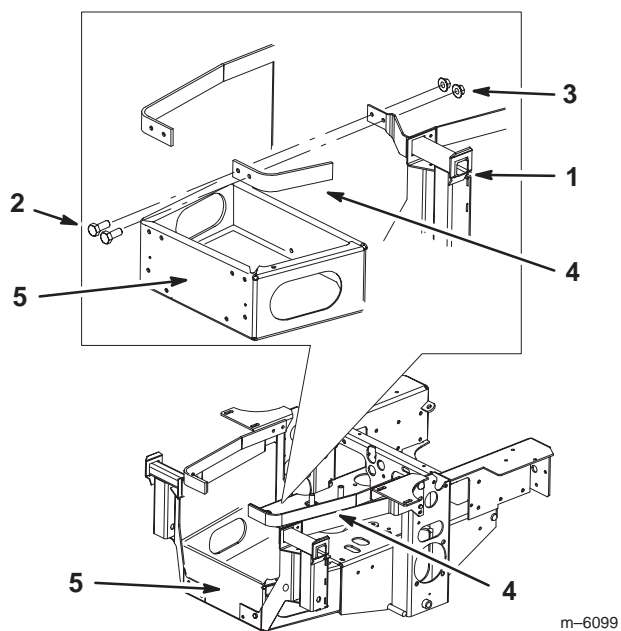

Figure 9
7. Loosely, install the bagger mounting bracket to the engine guard strap with 2 bolts (5/16 x 1 in.) and 2 flange nuts (5/16 in.) (Fig. 9).